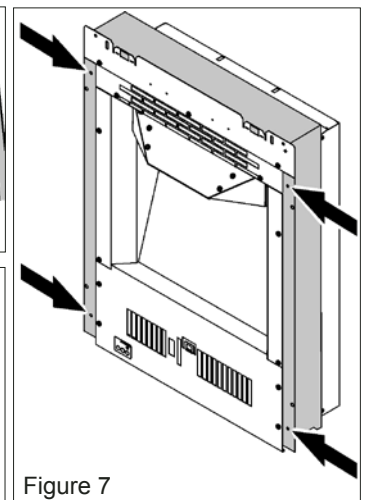

Figure 7
4. Secure the spacer frame to the heater using four no. 8 x 3/8 screws supplied—see figure 7.